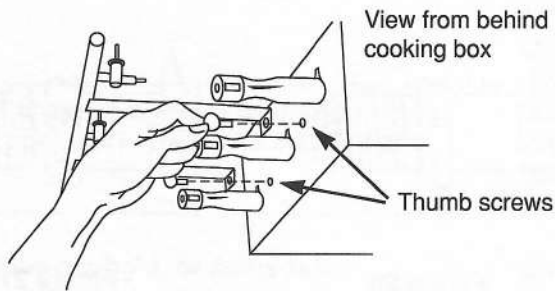

Figure 13
- e) Remove the manifold bracket and unscrew the two thumb screws that hold the manifold to the cooking box. Pull the manifold and valve assembly out of the burners and carefully set it down. Figure 13.